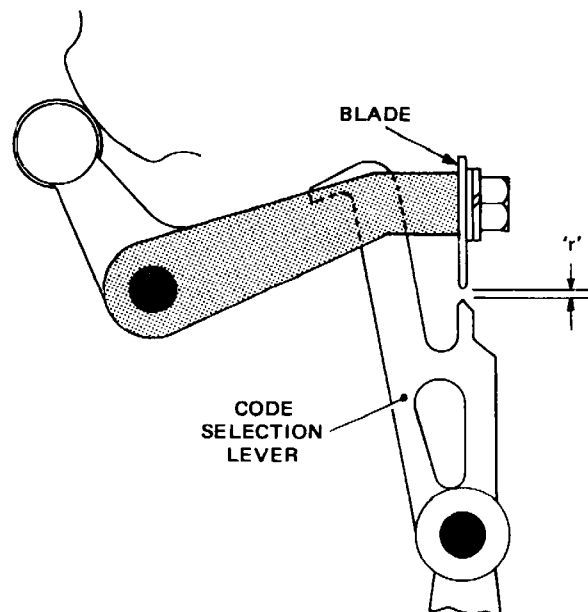

Fig. 4.19 LOCK FRAME BLADE
- 21.1 Set the unit to the rest condition, and check that the gap between the blade and the code selection levers (dimension 'r' of Fig. 4.19) is 0.008–0.016 inch.